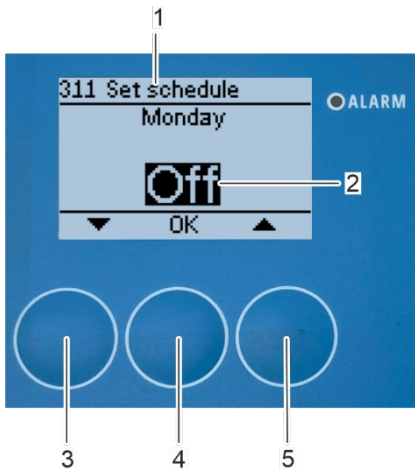

Fig. 154: Select the days for automatic cleaning
⇒ The "311 Set schedule" submenu (Fig. 154/1) appears on the display.
5. Press the arrow key *[up]* (Fig. 154/5) on the days you want the rotor cleaning device to perform an automatic cleaning.
If the rotor cleaning device shall not perform an automatic cleaning on the selected day confirm the selection [Off] (Fig. 154/2) with [OK] (Fig. 154/4). The display switches to the next day of the week.